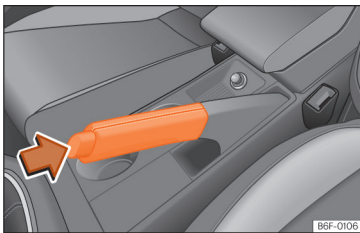

Fig. 245 Handbrake between the front seats.
- Pull the handbrake lever up »» **Fig. 245**.
- Pull the lever up slightly and press the release knob in the direction of the arrow »» **Fig. 245** and guide the handbrake lever down fully »» **△**.